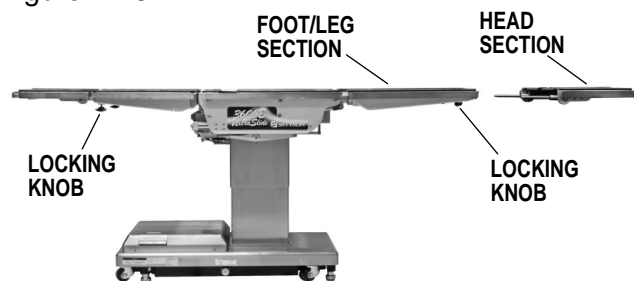

**Figure 2-19. Head Section Adjustment**
a. A quick release positioning bar located under and to the front of the head section (figure 2-19) is used to raise or lower the head section. Pull the release bar toward the head end to allow the section to pivot up or down. Positioning from 60° above horizontal to 90° below horizontal in 15° increments is available. Release the bar to lock the head section in position.